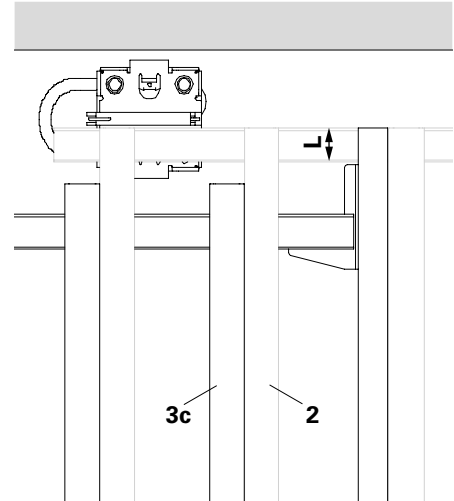
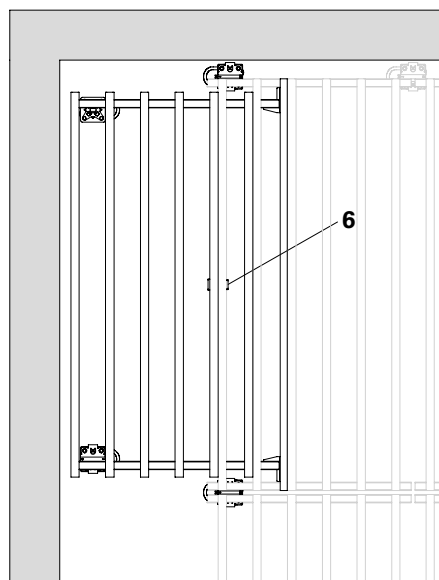

Fig. A5.02
Fig. A5.04
1. Fit Filler Element GFC (3c) between the longitudinal profiles of the Standard Element GFP (2) within area X with 6 cm filler widths.
**At least one longitudinal profile must be overlapped! (Fig. A5.02)**
**Place the protruding longitudinal profile (rectangular tube) of the Filler Element GFC (3c) on the transverse profile of the Standard Element GFP (2) (Jack L)!**
3. Swivel in the recessed props with prop head (1) and hook it into the supports of the Filler Element GFC (3c).
4. Secure Filler Element GFC to prevent it from shifting – 1 Clamp GFK (6). (Fig. A5.04)